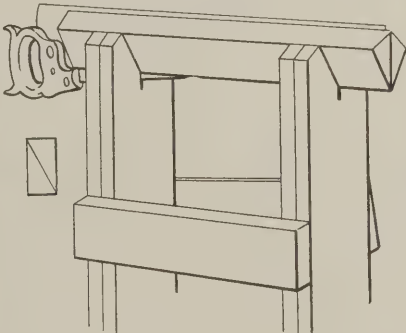

Fig. 3—Split 2x4 saw filing vise
R. S. T., of La Crosse, Wisconsin, submits the sketch, Fig. 3, of a saw filing vise he has made from scraps. As